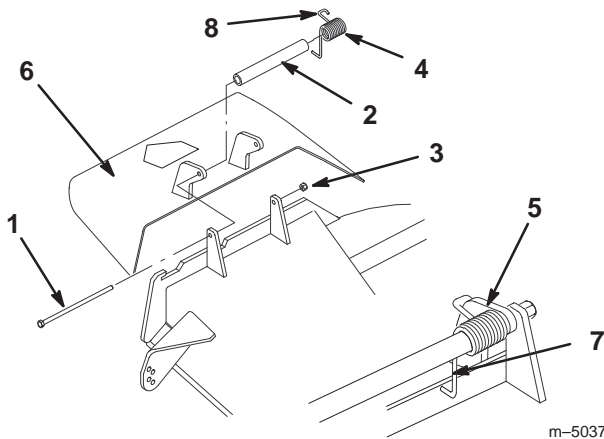

Figure 32
1. Remove the locknut, bolt, spring, and spacer that hold the deflector to the pivot brackets (Fig. 32).
Note: Ensure that the **L** end of spring is installed behind the deck edge before installing the bolt as shown in Figure 32.
3. Install the bolt and nut. Place the **J** hook end of the spring around the grass deflector (Fig. 32).